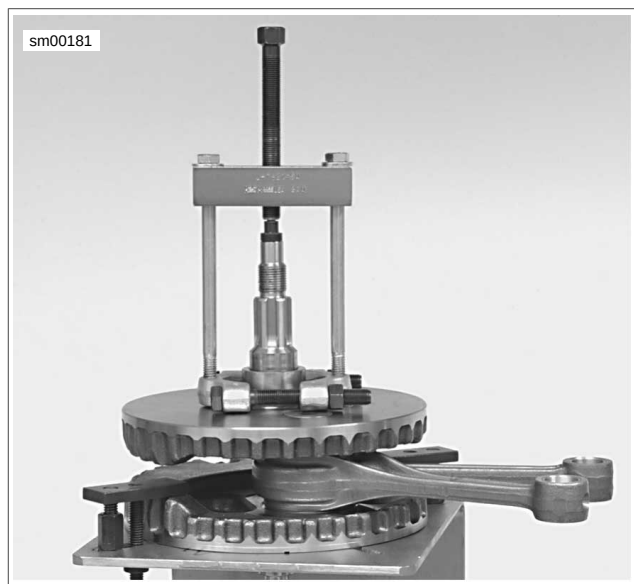

Figure 3-122. Removing Sprocket Shaft Inner Bearing Race
3. See Figure 3-122. Place flywheel assembly in FLYWHEEL SUPPORT FIXTURE (Part No. HD-44358). Pull sprocket shaft bearing inner race with WEDGE ATTACHMENT for CLAW PULLER (Part No. HD-95635-46) with BEARING RACE REMOVER/INSTALLER (Part No. HD-34902B) and END CAP (Part No. HD-34902-7).